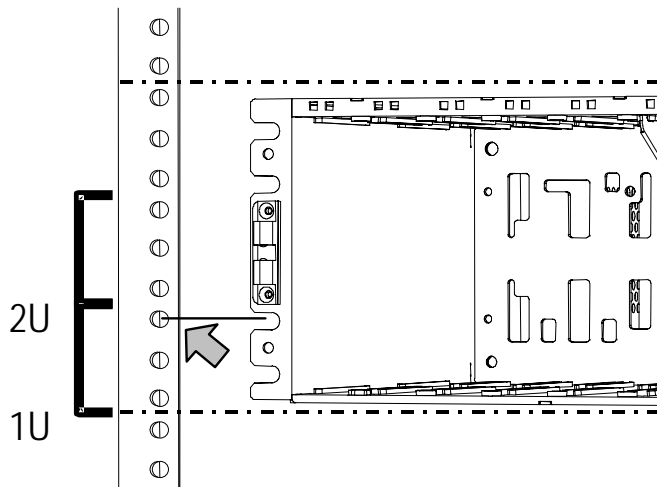

Figure 2.5 Installing the AMS/WMS Subsystem into the Rack
- b) Secure the AMS/WMS subsystem to the rack with screws that will attach to corresponding cage nuts on the rack. (See Figure 2.5)